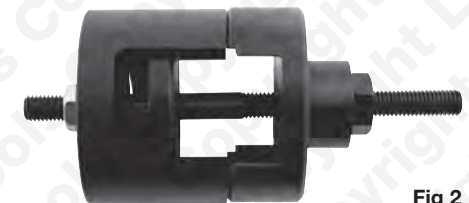

Fig 2
4. Assemble the press tool as shown in **Fig 2** using the larger bush fitting cup.